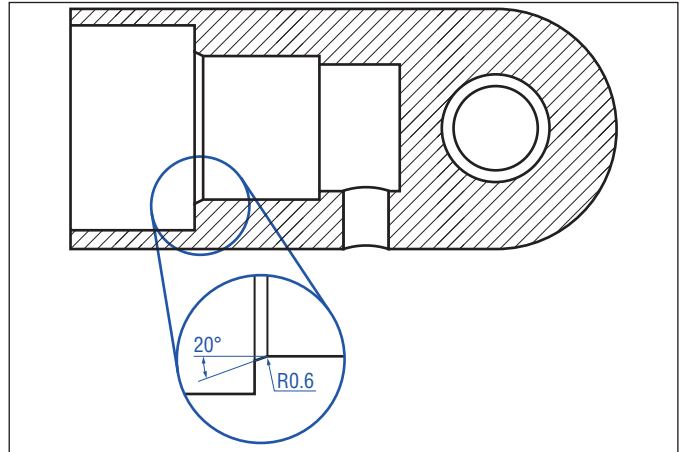

Fig. 11: Sensing Element feed-in chamfer
- For correct and easy sensor mounting of the Electronics Module, a chamfered edge as shown in figure 11 is required. To avoid damaging the O-ring during installation, the radius at the transition from bore hole to chamfered edge must be R0.6 – R1. Without this radius, there would be a sharp edge, which could damage the O-ring.